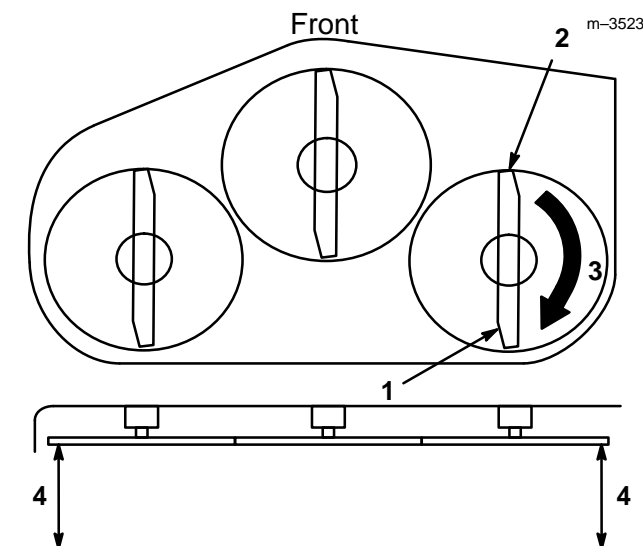
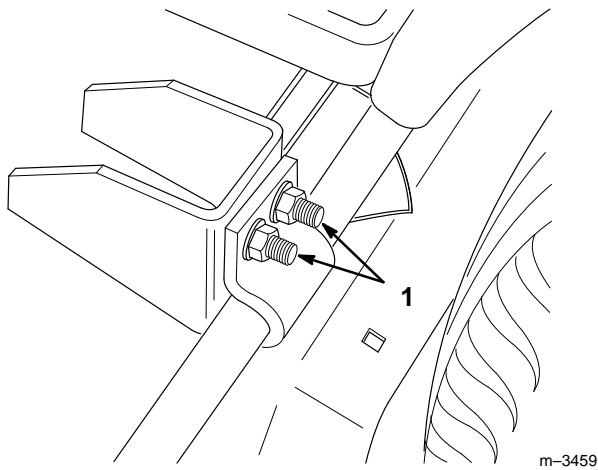

Figure 16
Figure 18
2. Carefully rotate one of the blades so it is facing front and rear (Fig. 16).
3. Measure the distance from the front tip of the blade (Fig. 16) to the flat surface. Then carefully rotate the blade tip until it is in the rear position. When the blade tip is in the front position, it should be 1/8" (3 mm) lower than when it is in the rear position.
Equalize side-to-side cut by adjusting the two carriage bolts (Fig. 18) on the mower. Check height of blade at outside blade tips as shown (Fig. 16).
- Check the slope of one of the blades (Fig. 16).